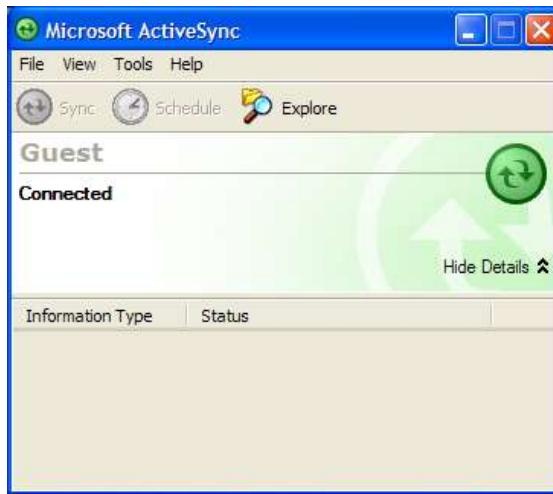

Figure 80: ActiveSync Explorer Connection window.
2. As we are not setting up a sync relationship between the PDA and the PC, the user should select **Cancel**. ActiveSync will then connect the PDA and PC and the ActiveSync connection window will appear (Figure 80).